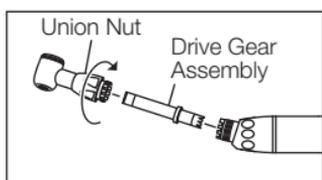

Fig. 6
- 2) Pull out the drive gear assembly from the head. (Fig. 6)